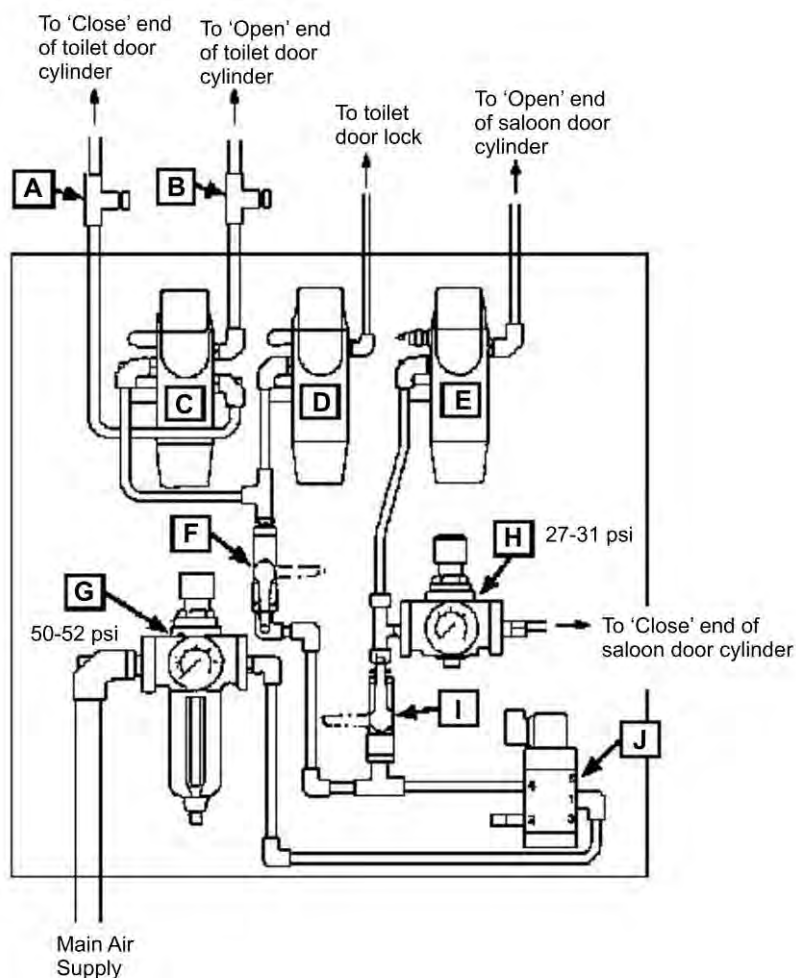

Figure 2: Lower Pneumatic Panel - HST Vehicles
- i) Turn isolating cock 'F' in the control cupboard (see Figure 2) to remove air pressure from both the door lock and the door actuator.
If the vestibule door also cannot be moved freely by hand, the vent valve or its wiring is defective. Renew vent valve (item 'J' in Figure 2, Adtranz Part No. 400-0707-85).